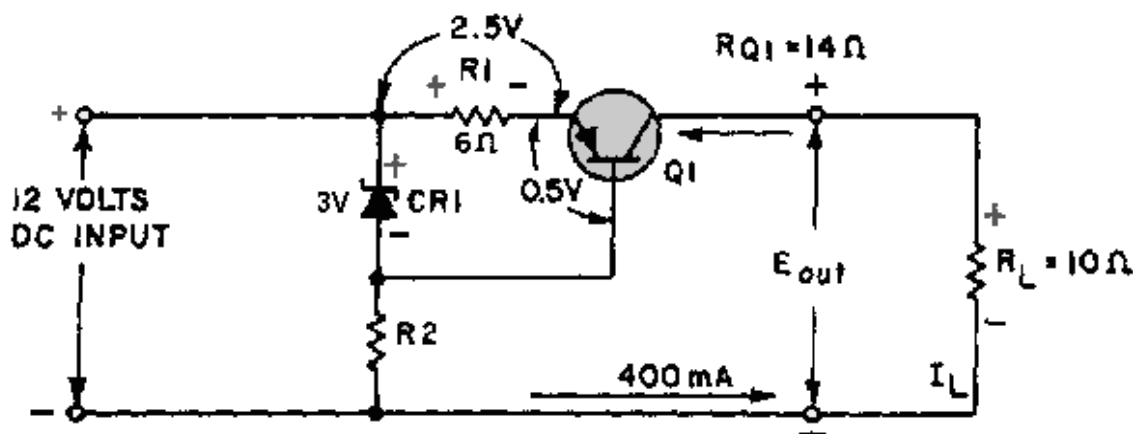

Figure 4-43.—Current regulator (with a decrease in  $R_L$ ).
Since you are familiar with the basic current regulating circuitry, let's examine in detail how the various components work to maintain the constant 400-milliampere output. Refer to the schematic shown in figure 4-43. Remember a decrease in load resistance causes a corresponding increase in current flow. In the example shown, the load resistance  $R_L$  has dropped from 15 ohms to 10 ohms. This results in a larger voltage drop across  $R_1$  because of the increased current flow. The voltage drop has increased from 2.4 volts to 2.5 volts. Of course, the voltage drop across  $CR_1$  remains constant at 9 volts due to its regulating ability. Because of the increased voltage drop across  $R_1$ , the forward bias on  $Q_1$  is now 0.5 volt. Since the forward bias of  $Q_1$  has decreased, the resistance of the transistor increases from 9 ohms to 14 ohms. Notice that the 5 ohm increase in resistance across the transistor corresponds to the 5 ohm decrease in the load resistance. Thus, the total resistance around the outside loop of the circuit remains constant. Since the circuit is a current regulator, you know that output voltages will vary as the regulator maintains a constant current output. In the figure, the voltage output is reduced to 4 volts, which is computed by multiplying current ( $I$ ) times resistance ( $R$ ) ( $400 \text{ mA} \times 10 \text{ ohms} = 4 \text{ volts}$ ).
- Q37. In figure 4-43 any decrease in the base-emitter forward bias across  $Q_1$  results in an increase/a decrease (which one) in the resistance of the transistor.